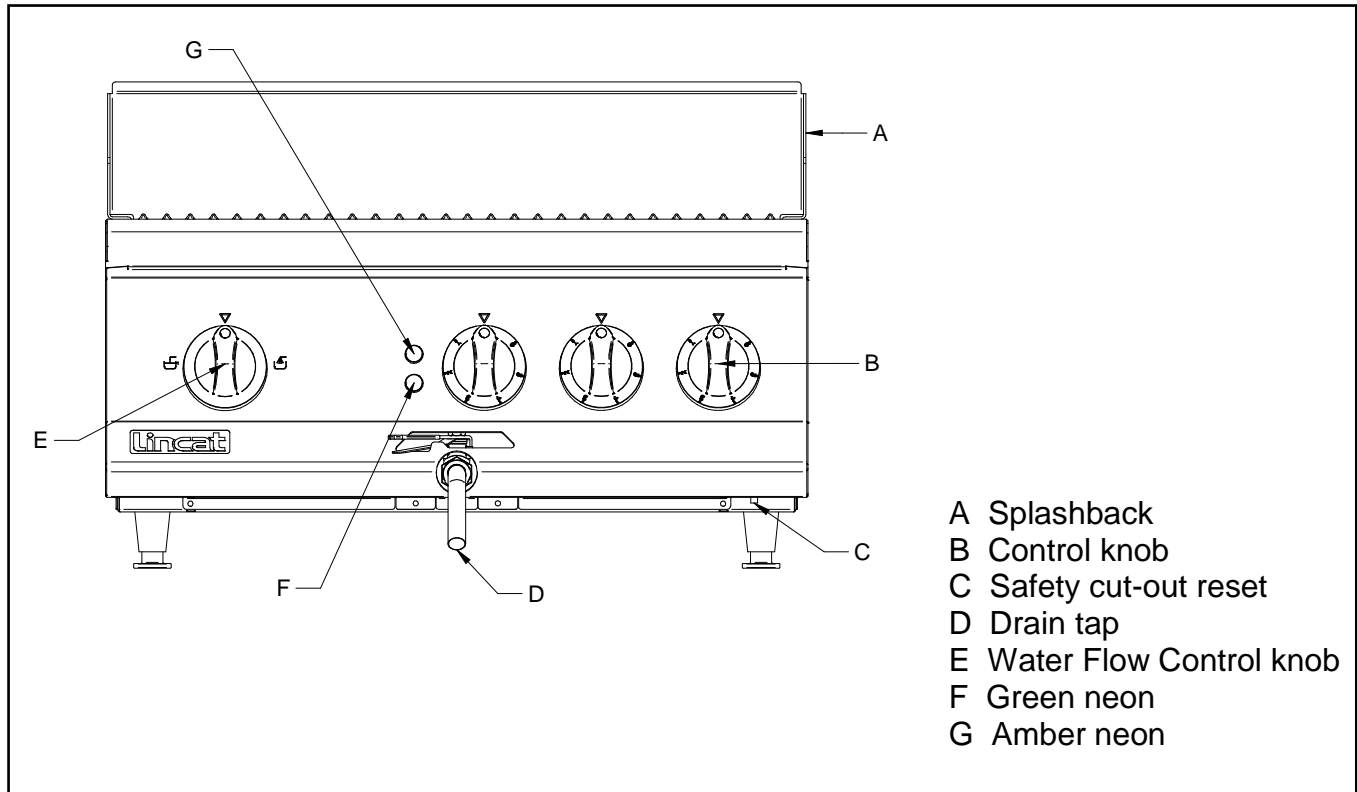

Fig 2
If the water level is not maintained the safety cut-out will operate. The appliance will then need to be cooled before the cut-out can be reset. Reset by pressing the red safety cut-out button (C) beneath the fascia (Fig 2). When refilling with water after overheating, extreme caution should be used, as cold water may react with the contents if they have been allowed to build up and become volatile.